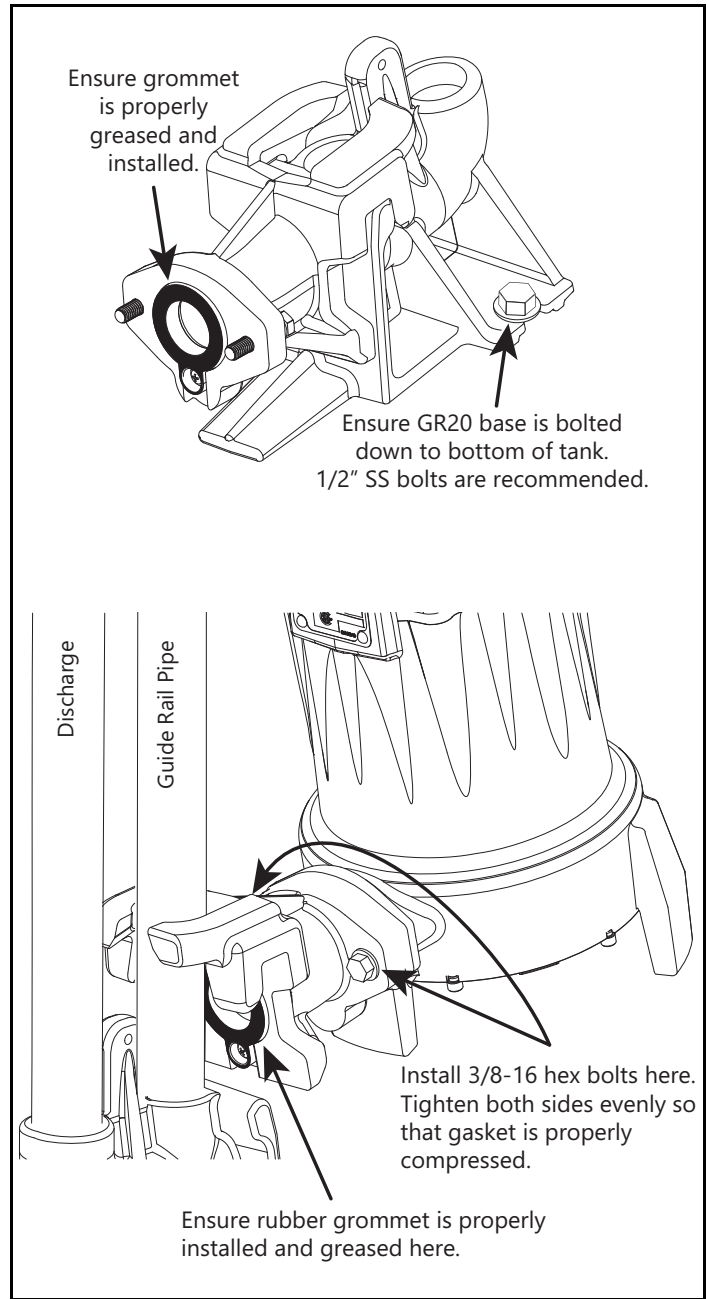
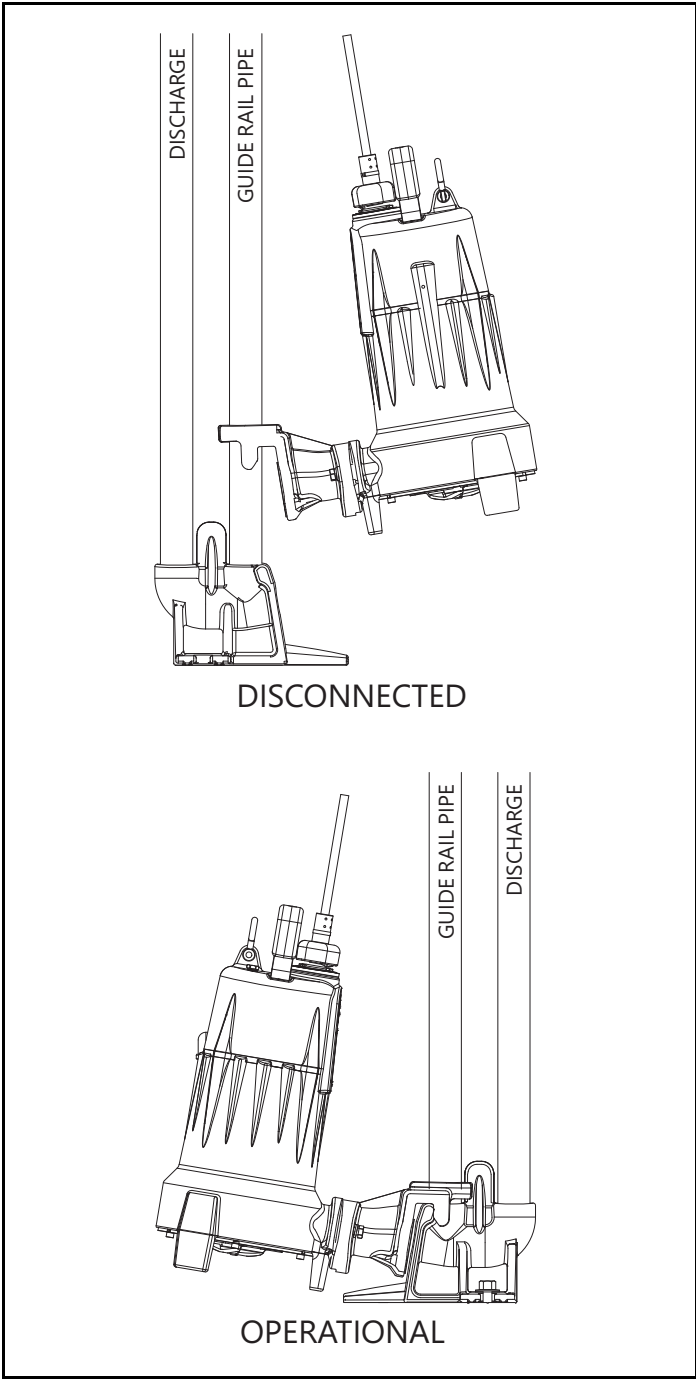

Figure 2. Installation Tips
Figure 3. Operation Modes
- G. GR20 Guide Rail Assembly:** The GR20 quick disconnect assembly provided with the grinder package system is designed to allow easy installation and removal of the pump. Ensure that installation is done per Figure 2 and Figure 3.